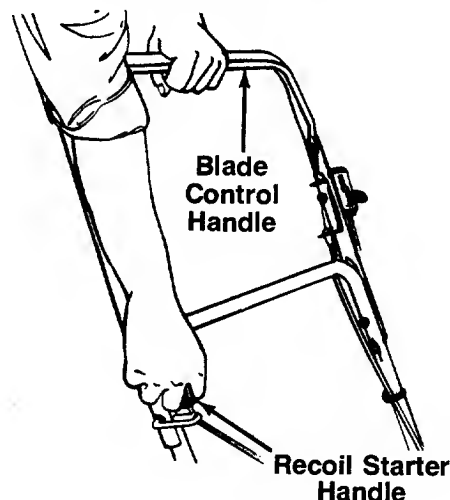

FIGURE 18.
4. Standing behind the unit, depress the blade control handle and hold it against the upper handle as shown. See figure 18.